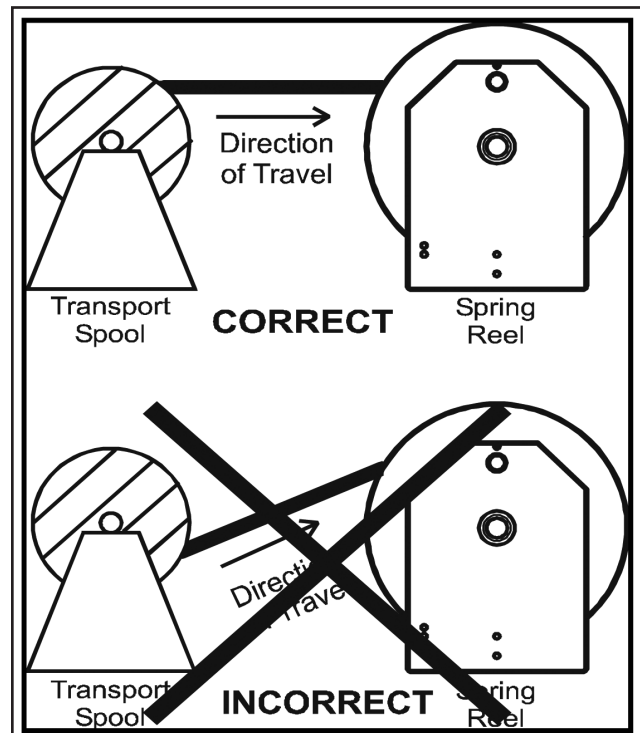

Figure 12-1
1. Prepare the cable to be loaded onto the reel. Support the cable as shown, or lay the full length of cable out in the direction of travel. Make sure the cable will lay flat by removing any twist from the cable. See **Figure 12-1**.